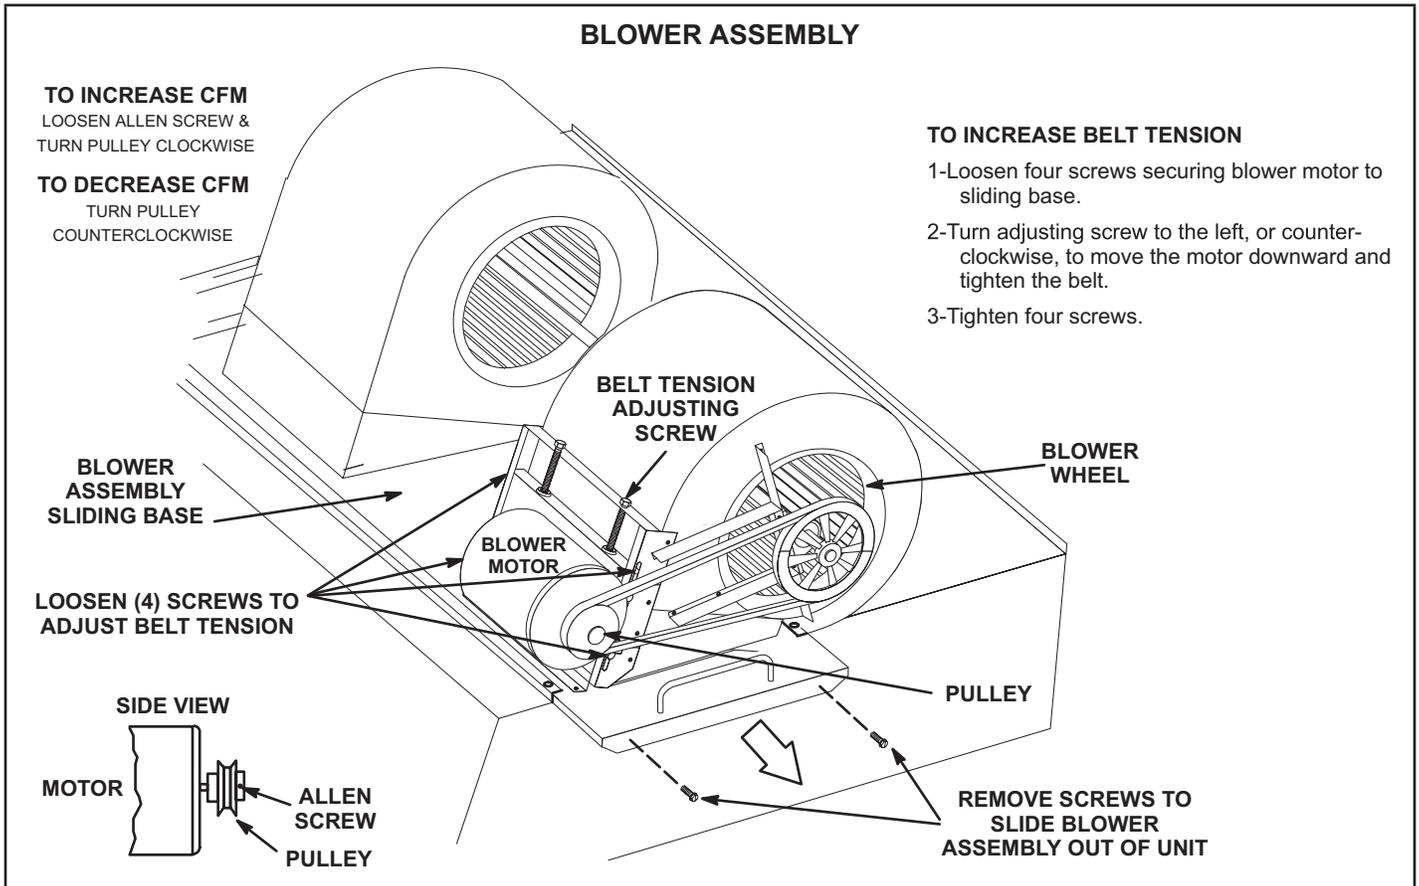

FIGURE 26
- 2 - Remove screws on either side of blower assembly sliding base. See FIGURE 26.
- 4 - The blower RPM can be adjusted at the motor pulley. Loosen Allen screw and turn adjustable pulley clockwise to increase CFM. Turn counterclockwise to decrease CFM. See FIGURE 26. Do not exceed minimum and maximum number of pulley turns as shown in TABLE 5.
- 1 - Loosen four screws securing blower motor to sliding base. See FIGURE 26.